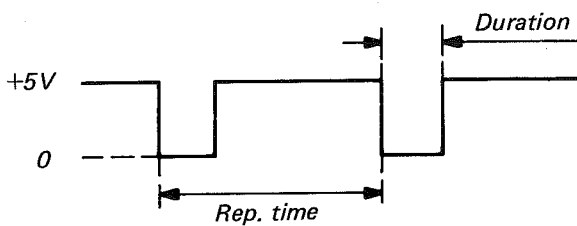

Fig. 6.3. Main pulse, complementary mode.
- Depress the COMPL switch and observe a complementary pulse similar to fig. 6.3.